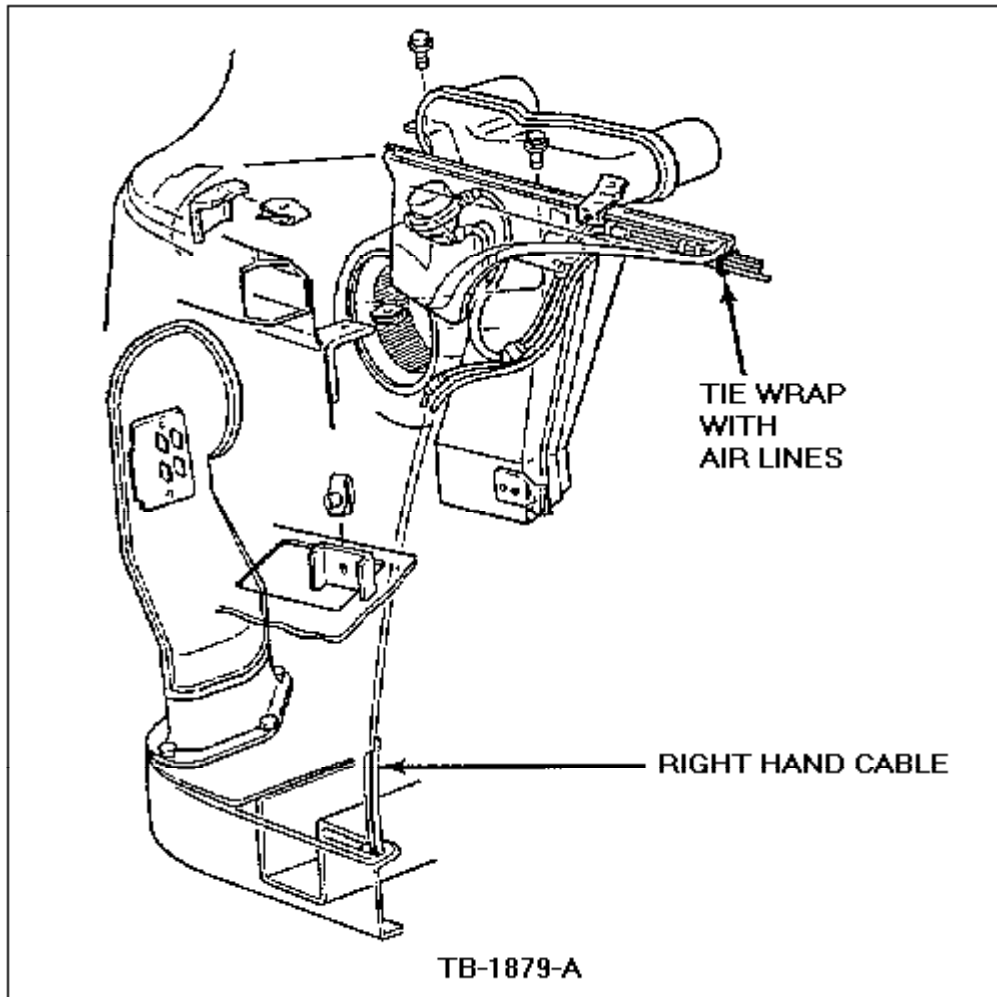

Figure 3 - Article 91-7-16
- b. Tie wrap the cable with the air lines to assure it doesn't shift position, Figure 3.